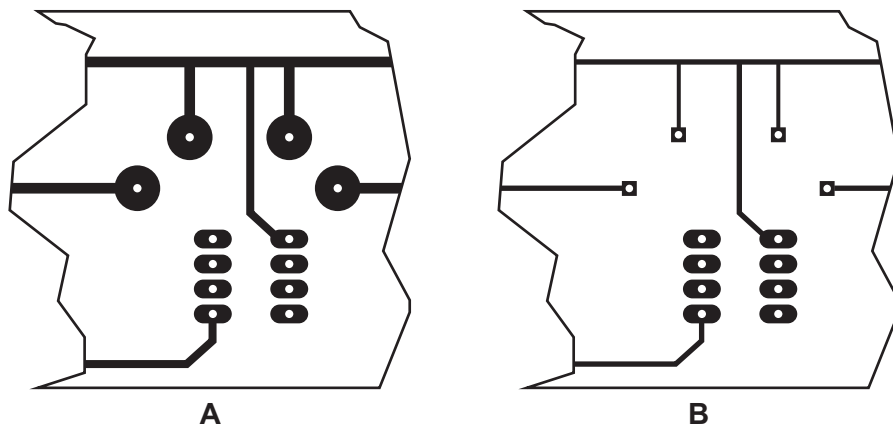

Fig. 11.1
- 11 Fig. 11.1 shows two possible designs for a printed circuit board (PCB) to be made using the photoetch process.